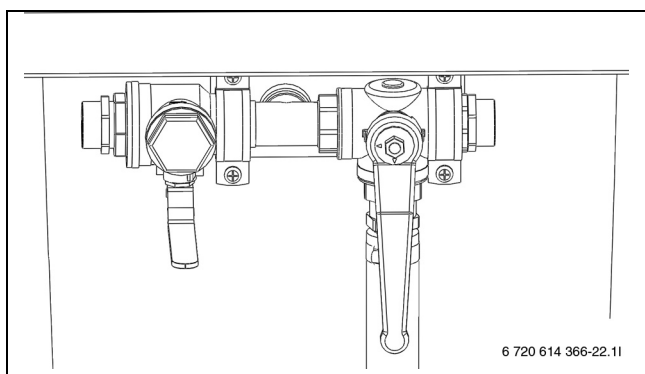

Fig. 37 Filling station in mixing position
- ▶ Turn the valves on the filling station so that they are in mixing position (→ Figure 37).